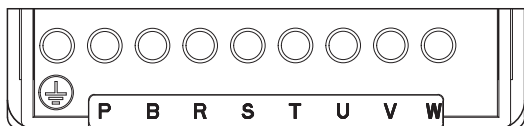

Figure 5-5 Main circuit terminals NVF5-0.4/TS4-B~7.5/TS4-B
5.3.2 See figure 5-5 and Table 5.1 for 3-phase 380V series (NVF5-0.4/TS4-B~7.5/TS4-B)